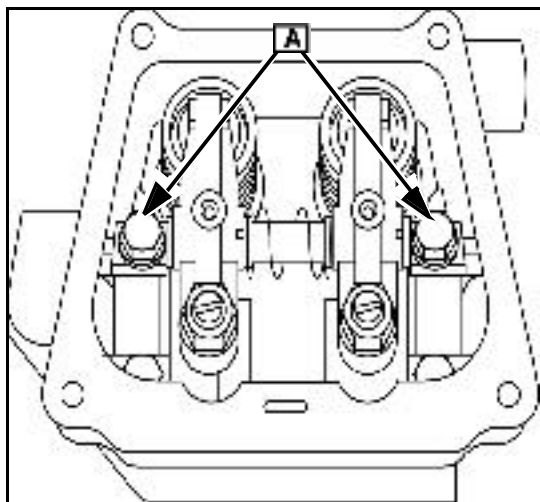

Fig. 34
3. Install two screws ([A] Fig. 34) in rocker arm shaft and cylinder head.